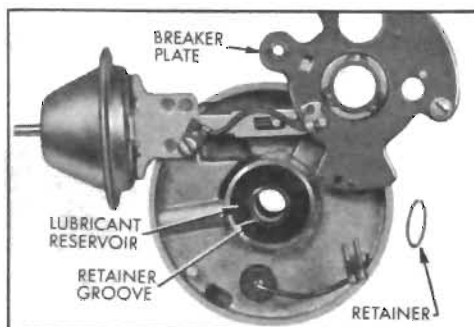

Figure 10-47—Installing Breaker Plate and Retainer
2. Install felt washer over upper bushing and apply a few drops of light oil. Then place breaker plate over upper bushing and vacuum advance link. Install retainer on upper bushing. See Figure 10-47.